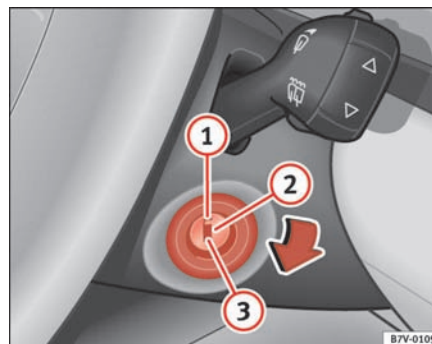

Fig. 126 Ignition key positions
In position ⇒ fig. 126 ① the ignition is switched off, and the steering wheel lock can be engaged.
- Turn the ignition key to position ⇒ page 161, fig. 126 ③ to start the engine.
- Turn the ignition key to position $\Rightarrow$ page 161, fig. 126 ②. The warning lamp  lights up to show that the glow plugs are preheating the engine.
- When the warning lamp goes out, turn the key to position ③ to start the engine. Do not press the accelerator.
- Turn the ignition key to position $\Rightarrow$ page 161, fig. 126 ①. ►